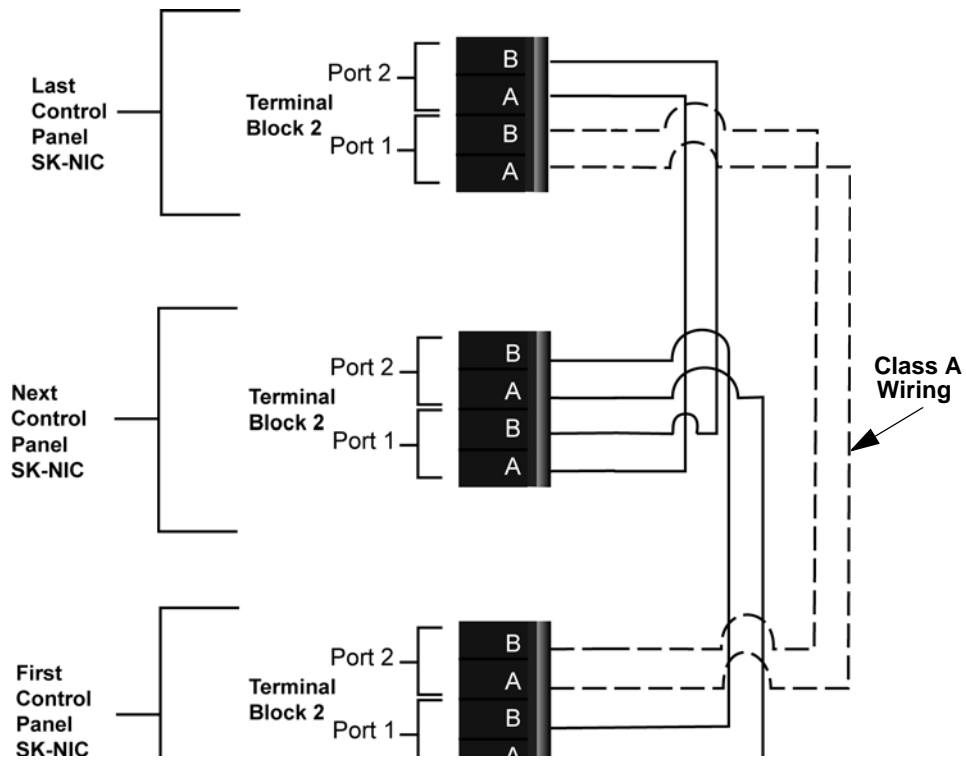
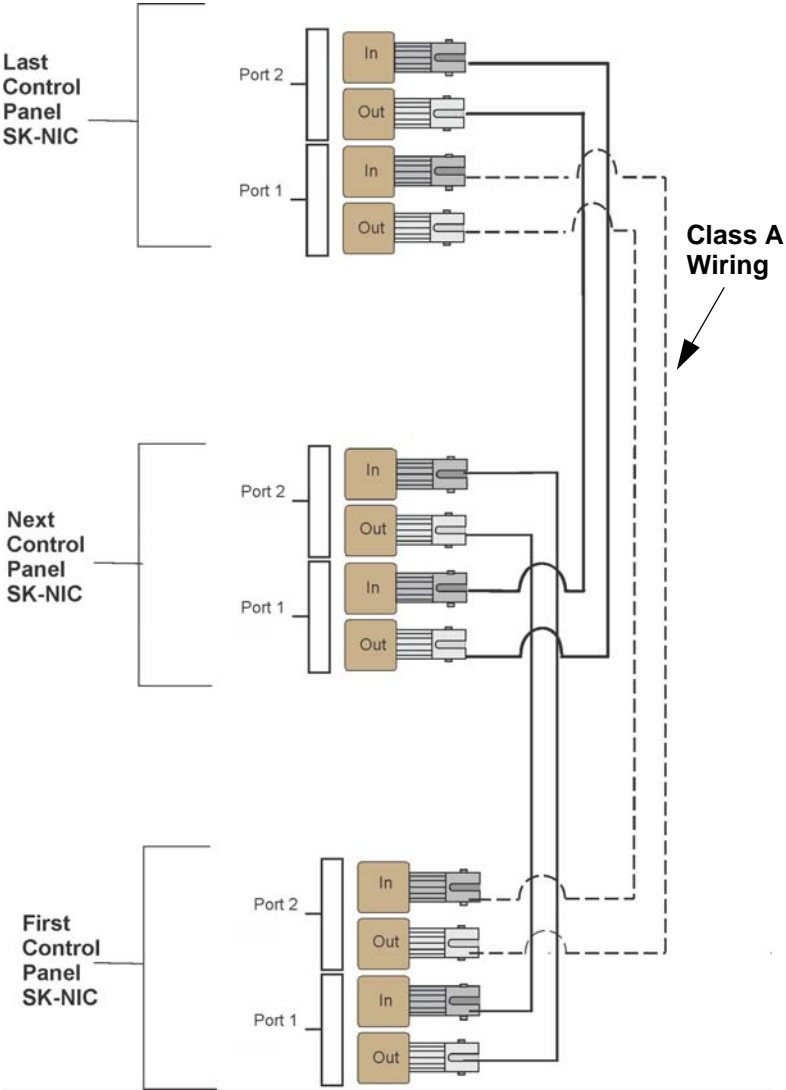
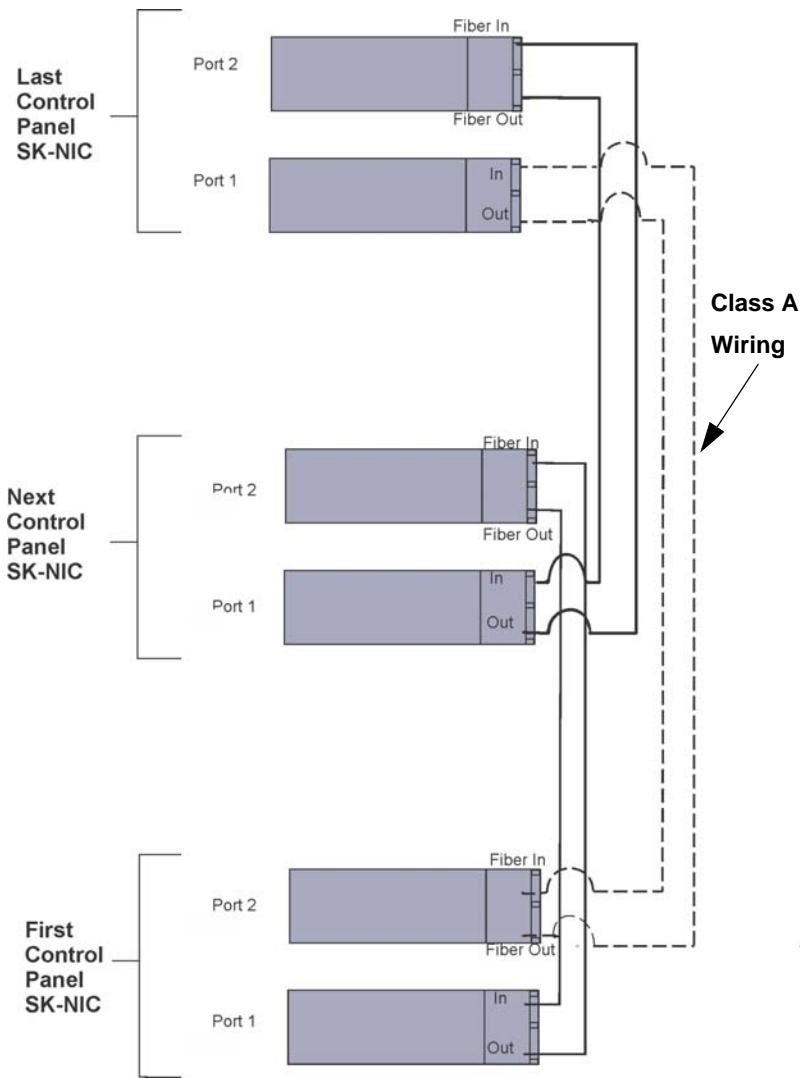
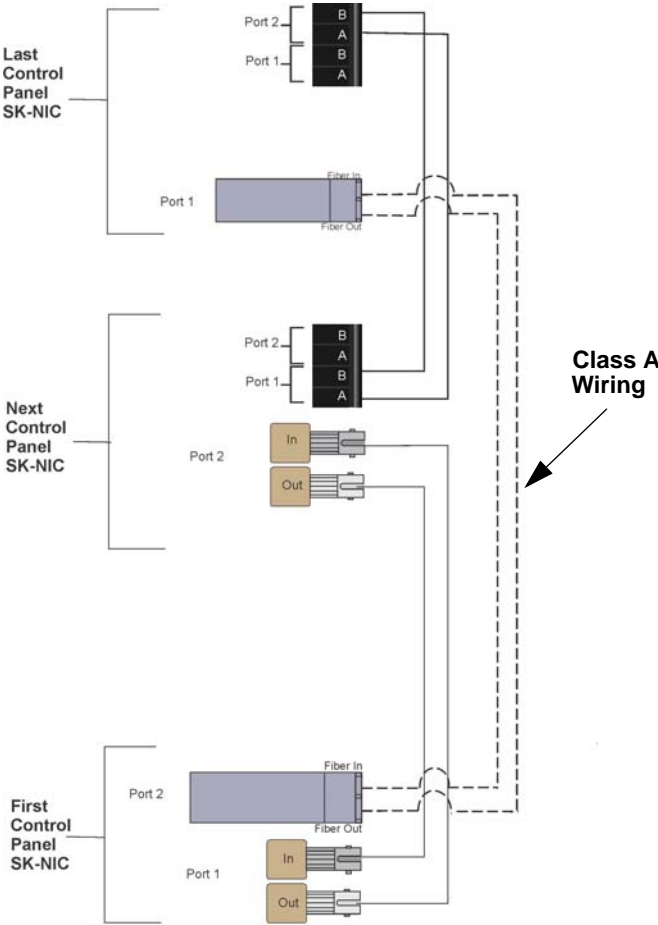

Figure 5-7 Twisted Pair Wiring Configuration
Figure 5-8 Fiber Optic Wiring Example
Figure 5-9 Fiber Optic Wiring Single-Mode Example
Figure 5-10 Twisted Pair and Fiber Optic Combination Wiring Example
- Based on the type of data medium chosen, run the twisted pair wiring/fiber optic cable to the next SK-NIC using a class B or class A wiring method. A combination of both medium types can be used. See Figure 5-7, Figure 5-8, Figure 5-9, and Figure 5-10 for SK-NIC wiring examples.
Unshielded twisted pair wiring between multiple panels is shown in Figure 5-7. Class A wiring is shown with a dotted line.
Fiber optic cable between multiple panels is shown in Figure 5-8. Class A is shown with a dotted line.
A mixture of fiber optic cable and twisted pair wiring between multiple panels is shown in Figure 5-10. Class A cabling is shown with dotted line.